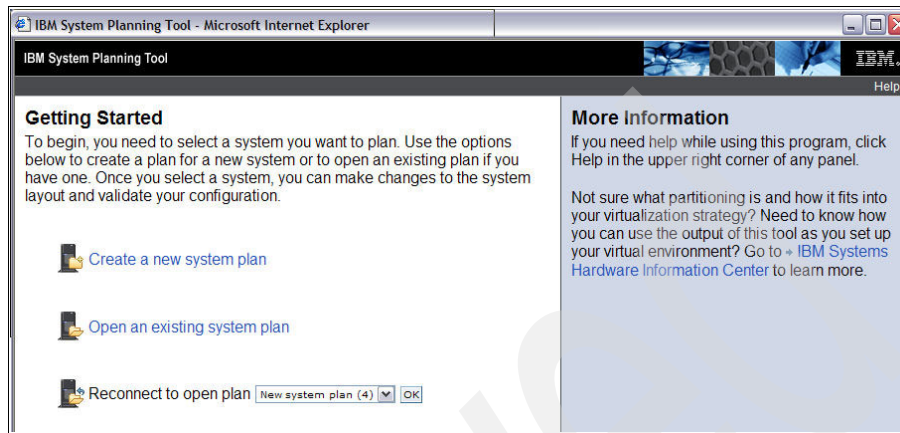

Figure B-19 SPT Getting started window
2. The SPT launch window opens and you should click **Launch** to display the Getting Started window, as shown in Figure B-19.